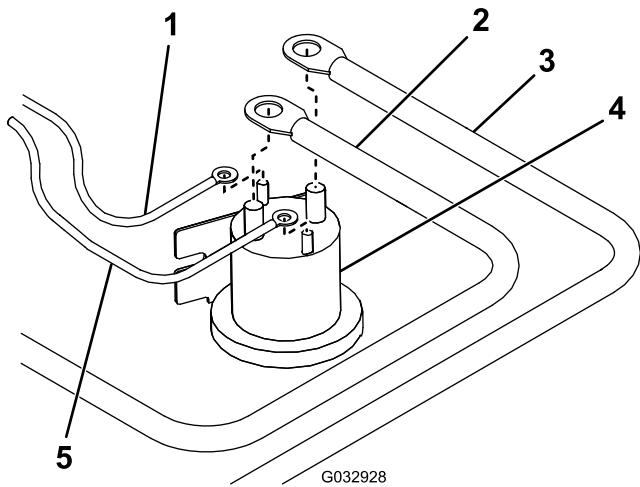

Figure 10
7. Connect the white/black wire from the wire harness to the small post on the pump solenoid (Figure 10).
8. Connect the brown wire from the wire harness to the other small post on the pump solenoid (Figure 10).
10. Connect the red power/ground cable to the large post on the pump solenoid (Figure 10).
11. Connect the battery cable to the other large post on the pump solenoid (Figure 10).